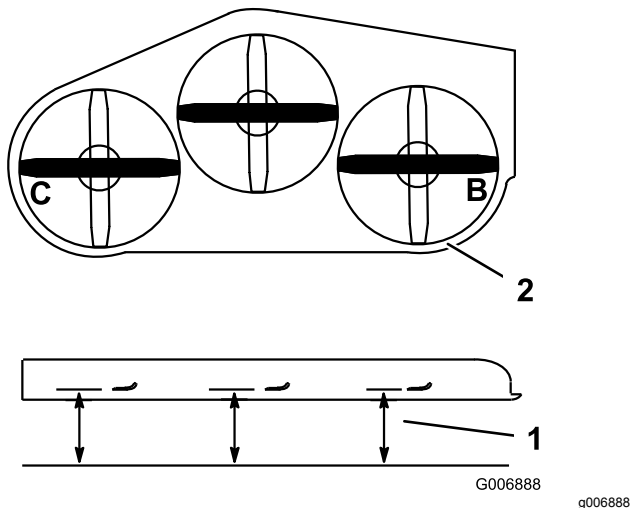

Figure 92
1. Position the **right** blade side-to-side (Figure 92).
3. Measure the right blade at the **B** location, from a level surface to the cutting edge of the blade tip (Figure 92).
5. Position the left blade side-to-side (Figure 92).
6. Measure the left blade at the **C** location (Figure 92), from a level surface to the cutting edge of the blade tip.